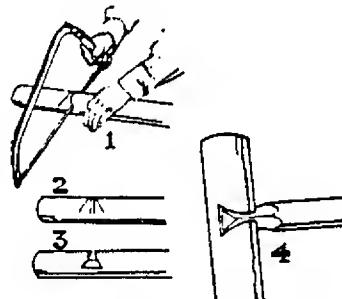

Figure 402 The Dove Tail
29. Make a Dove Tail Notch: See Figure 402. Dovetailing is a simple cabinet maker's craft for holding two pieces of wood together. If you wish to hold two poles together at right angles, and if you have no nails and a hammer, or lashing ropes, you may make what is called a dove tail notch. This type of a notch was used in the chapter on rafting in Figure 305.